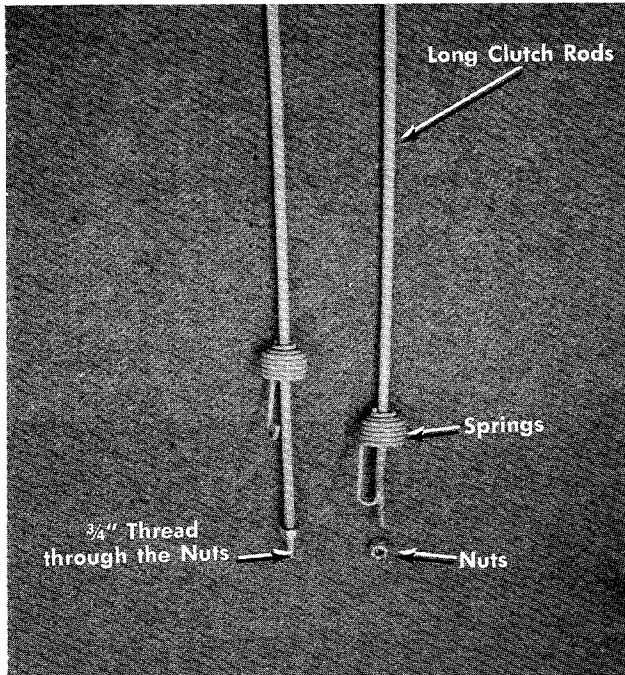

FIGURE 8
14. Slide the springs over the threaded end of the long clutch rods and screw the nuts on until $\frac{3}{4}$ " of threads are extended through the nuts. See figure 8.